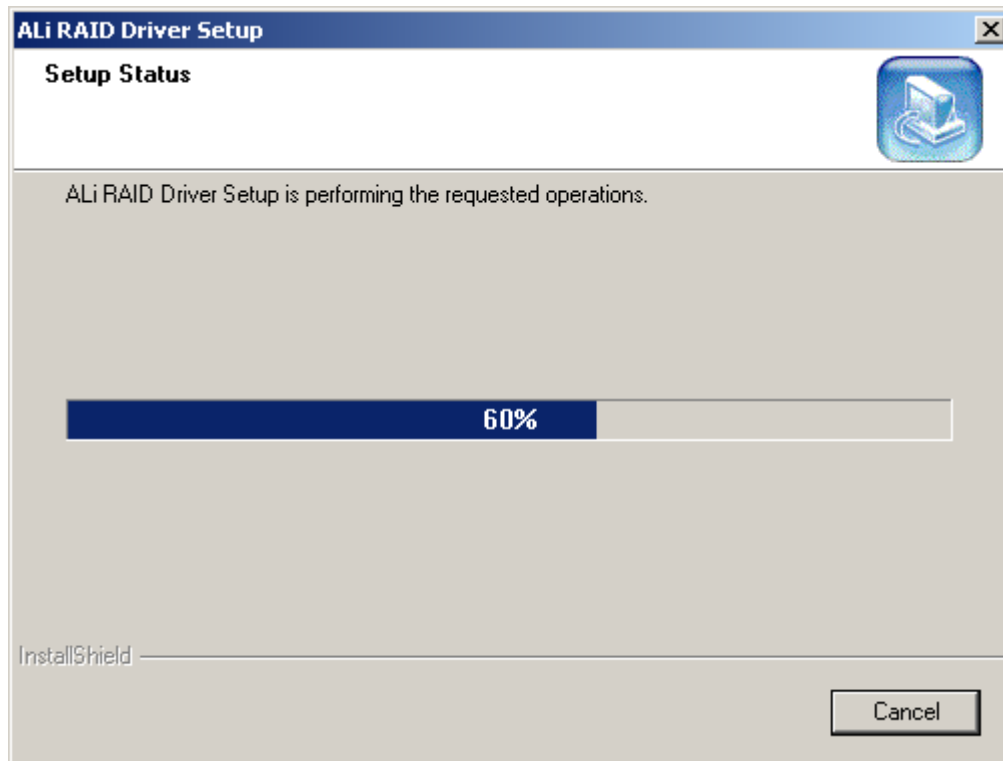

**Figure 6-27: Install Wizard Welcome Screen**
**Step 4:** Once initialized, the **Install Wizard** welcome screen appears (Figure 6-27).